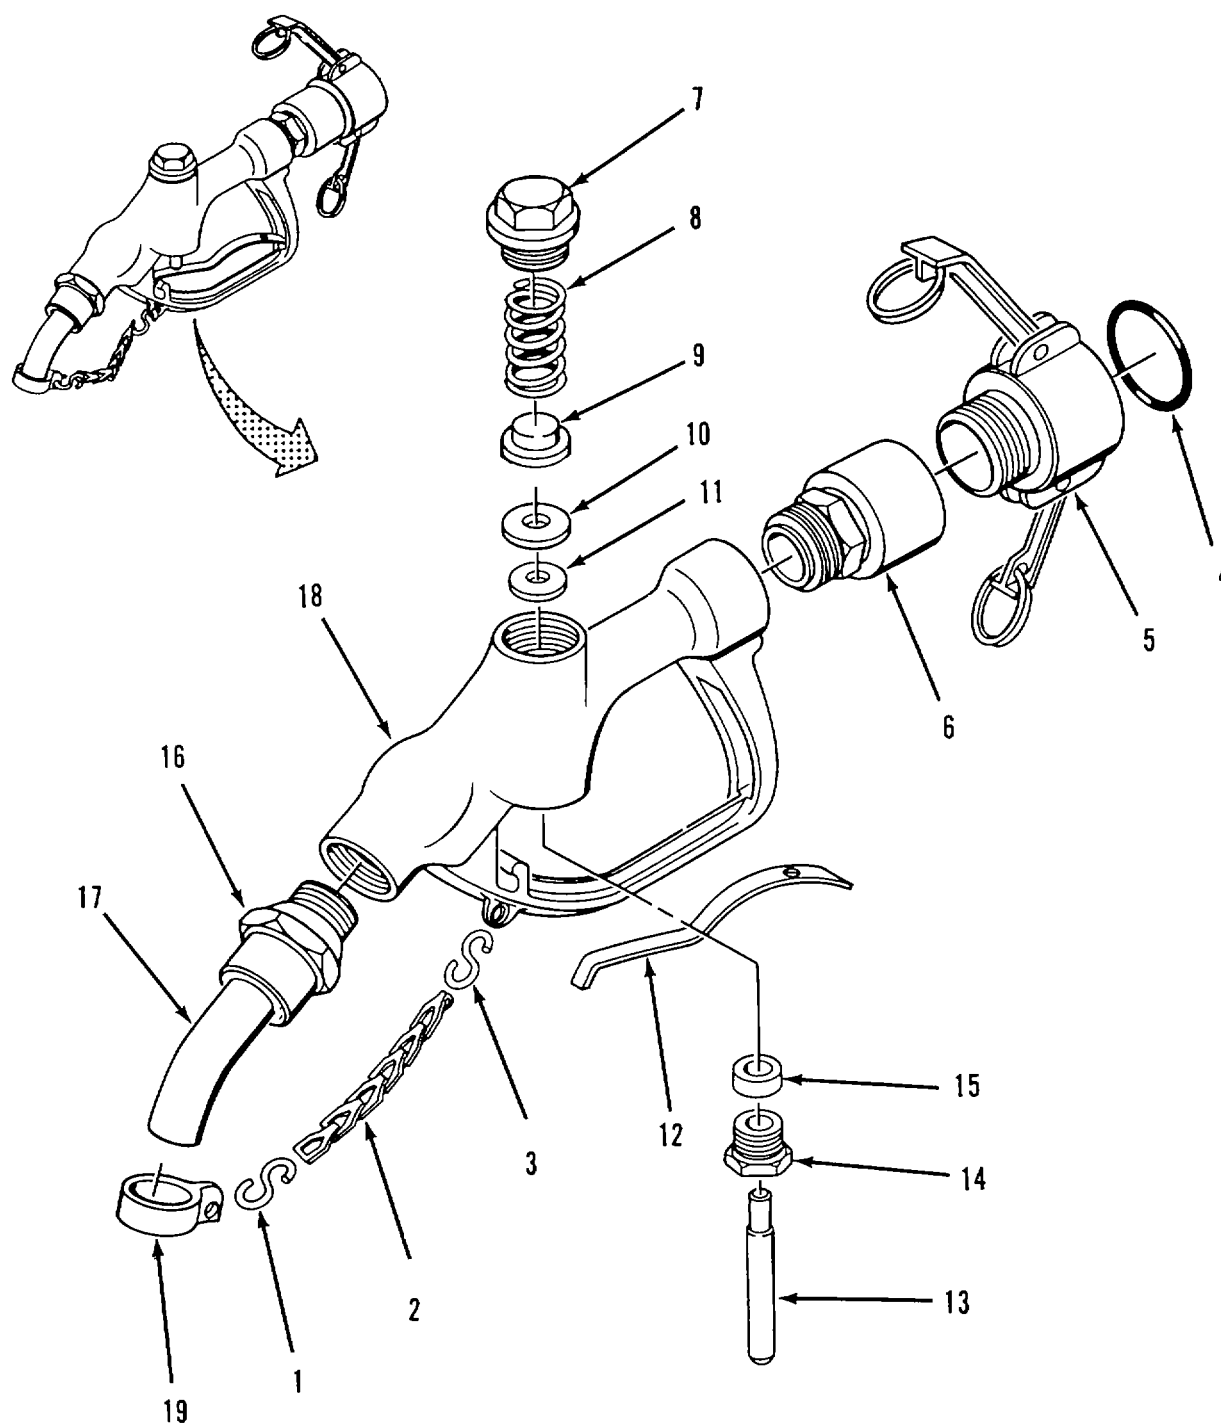

Figure 4-9. Distribution Nozzle (1-Inch) Assembly
- (1) Inspect body (18) and tube (17) for cracks and stripped or damaged threads
- (2) Inspect handle (12) for bends and cracks
- (3) Inspect stem (13) for scoring Check that stem is straight
d. Repair. Replace damaged parts Do not reuse gasket (4), packing (15) or disc (10)
e. Assembly. Refer to figure 4-9
- (1) Position end of tube (17) on body (18) and secure with jam nut (16)
- (2) Install packing (15) and packing nut (14) in body (18) Do not tighten packing nut
- (3) Push stem (13) into packing nut (14) from top of body (18) Make sure stem is positioned as shown
- (4) Position handle (12) in body (18) Push down on stem (13) to keep handle in place
- (5) Place disc washer (11), disc (10) and disc holder (9) on top of stem (13)
- (6) Position spring (8) on top of disc holder (9) and install cap (7) on body (18)